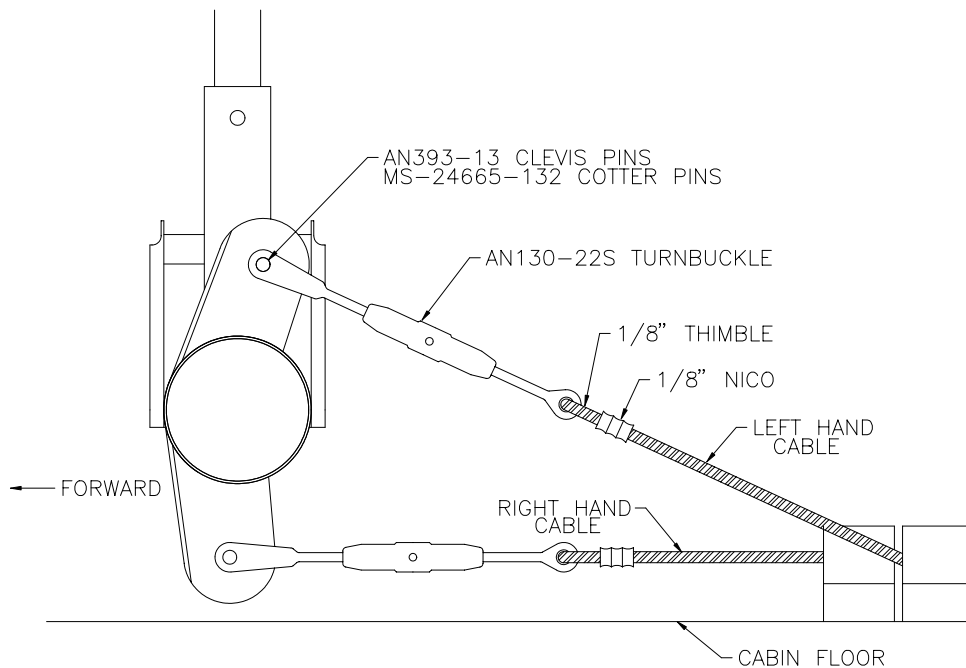

Figure 15.12.2
3) Attach turnbuckles (AN130-22S) to the control column. Attach cable to turnbuckles. Figure 15.12.2.